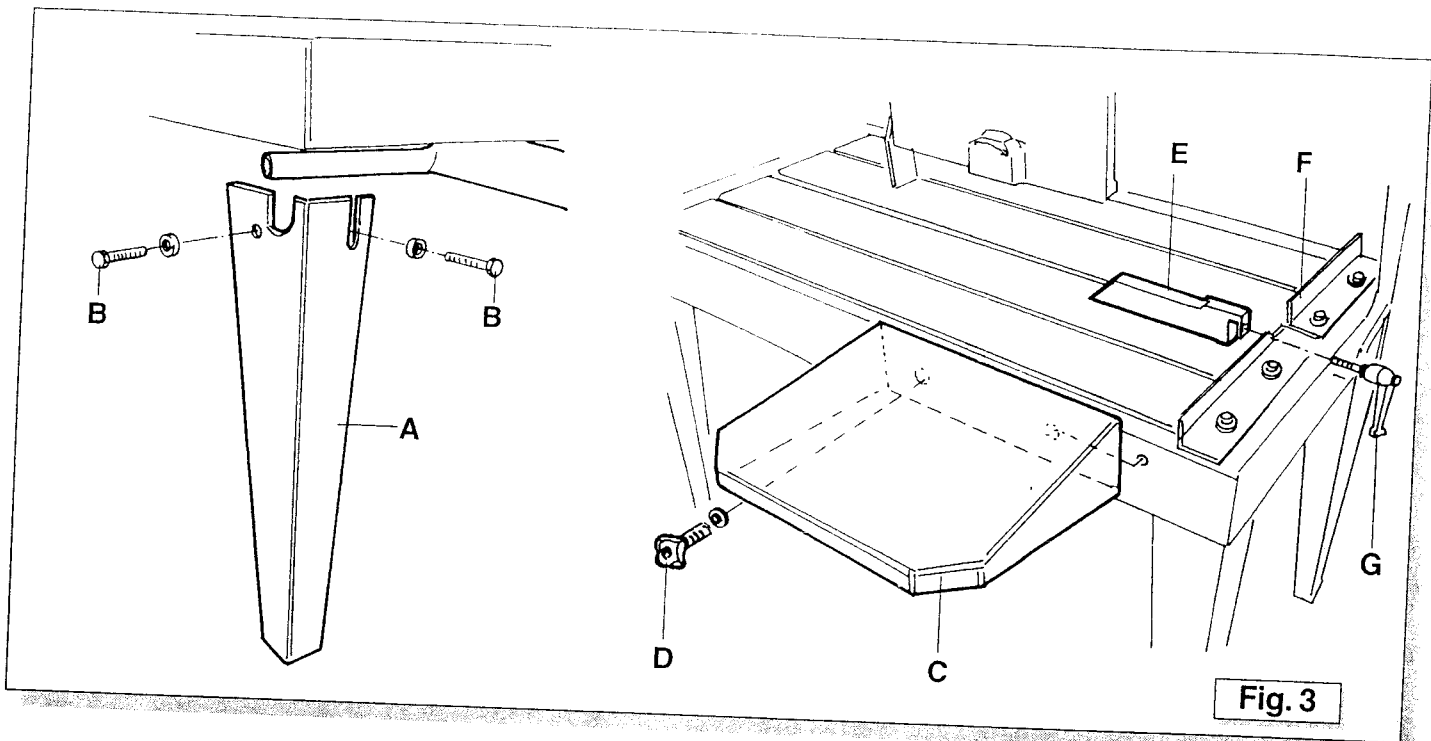

Fig. 3
- Before placing the machine on the floor, keep it on the forklift and screw on the legs with its proper key **A+B** (Fig. 3).
- Install the side table extension **C** (Fig. 3) and tighten the knobs **D** (Fig. 3).
- Mount the fence on side part **F+E** (Fig. 3) and hold it with proper Lever Knob **G** (Fig. 3).